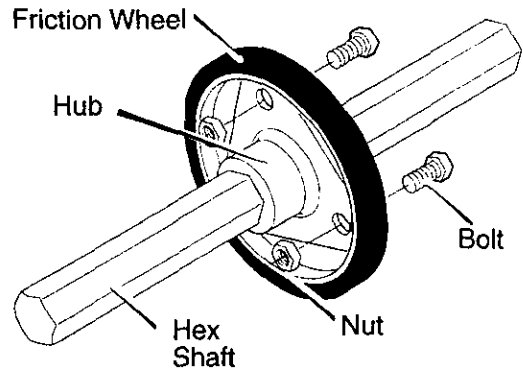

Figure 31
6. Remove the three **fasteners** that hold the **friction wheel** to the **hub**. See Figure 31.
9. Remove the **friction wheel** from the **hub**. Slip the **friction wheel** toward the right off the **hex shaft**. See Figure 31.